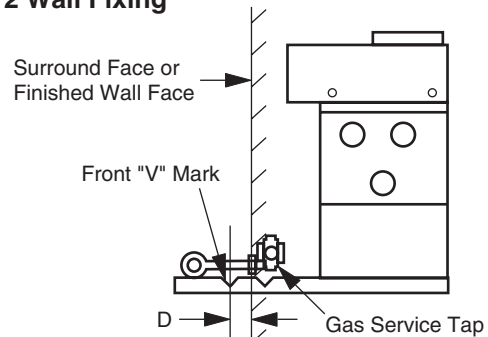

Fig. 3 Gas Supply Pipe
- Measure the distance 'D' from the centre of the front positioning 'V' mark on the boiler tray, back to the surround face or finished wall face (Fig.3).